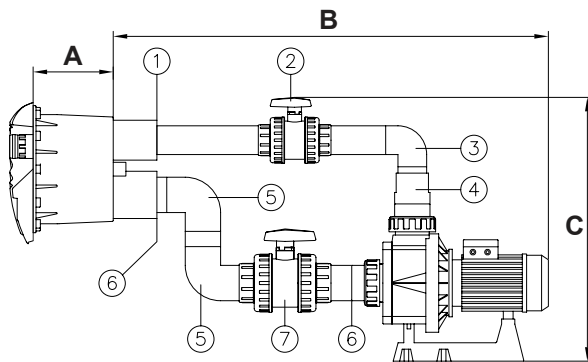

Fig. 6
- Glue the 75x63 mm. reducing bush (no.1, fig. 6) to the discharge mouth of the niche (see fig. 6).
- Glue a Ø 63mm. pipe (*) in the reducing bush (no.1, fig. 6).
- Glue the Ø 63mm. valve (no.2, fig. 6) to the Ø 63mm. pipe (*).
- Glue a Ø 63mm. pipe (*) to the Ø63mm. pipe (no.2, fig. 6).
- Glue the Ø 63mm. elbow (no.3, fig. 6) to the Ø 63mm. pipe (*).
- Glue a Ø 63mm. pipe (*) to the elbow (no.3, fig.6).
- Glue a 90/75/63 mm. conical reducer (no.4, fig. 6) to the Ø 63mm. pipe (*) and the Ø 90mm. connector on the pump.
- Glue the 90x75 mm. reducing bush (no.6, fig. 6) in the suction mouth of the niche (see fig. 6).
- Using a Ø 75mm. pipe (*), glue a Ø 75mm. elbow (no.5, fig. 6) on to the reducing bush (no.6, fig. 6).
- Using a Ø 75mm. pipe (*) join the other Ø 75mm. elbow (no.5, fig. 6) to the elbow already glued (see fig. 6).
- Glue the Ø 75mm. valve (no.7, fig. 6) to the elbow (no.5, fig. 6) using a Ø 75mm. pipe (*) to join them.
- Glue a Ø 75mm. pipe (*) to the valve (no.7, fig. 6).
- Glue a 90x75 mm. reducing bush (no.6, fig. 6) to the Ø 75mm. pipe (*) and the Ø 90mm. connector on the pump.*)